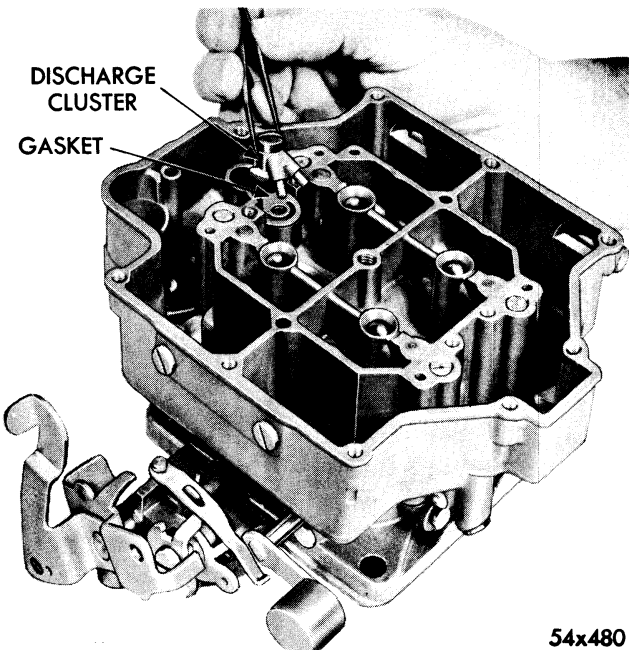
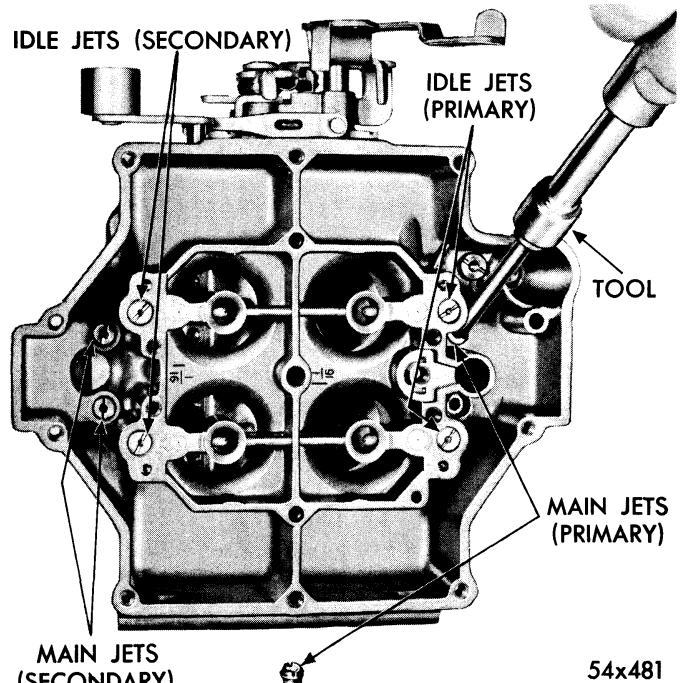

Figure 65—Removing or Installing Accelerator Pump Discharge Cluster
Figure 66—Removing or Installing Main Metering Jets
**Main Body**—Remove discharge cluster as shown in Figure 65. Invert main body and remove the pump discharge check needle. Remove main metering jets primary side, as shown in Figure 66. Then remove the secondary side main metering jets. Primary main metering jets are not interchangeable with secondary jets.
Remove the idle jets, primary side, as shown in Figure 66. Then take out the secondary idle jets on secondary side. Primary idle jets are not interchangeable with secondary idle jets. Invert carburetor and remove the four throttle body to main body screws which are located in the bottom of the throttle body. Discard the gasket.
**Main Body**—Install the primary and secondary idle jets and tighten securely. Install the primary and secondary main metering jets. See Figure 66. Tighten securely. Install the vacuumer piston spring in the piston cylinder.